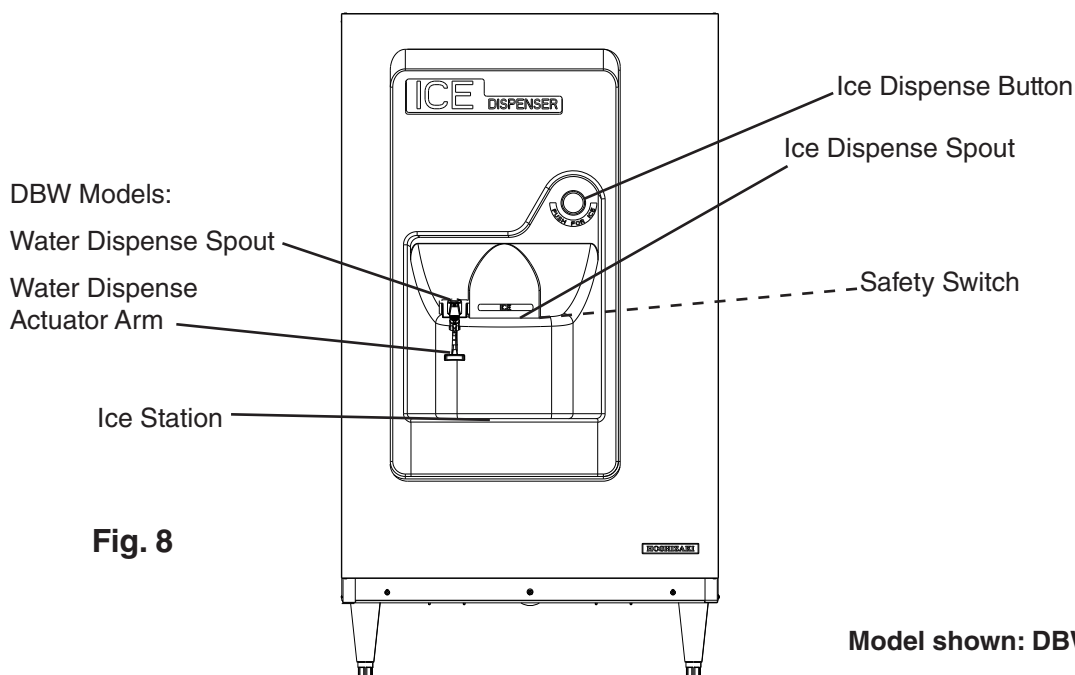

Fig. 8
- 2) Place a container under the ice dispenser spout, then press the ice dispense button. See Fig. 8. Confirm that ice is dispensing properly.